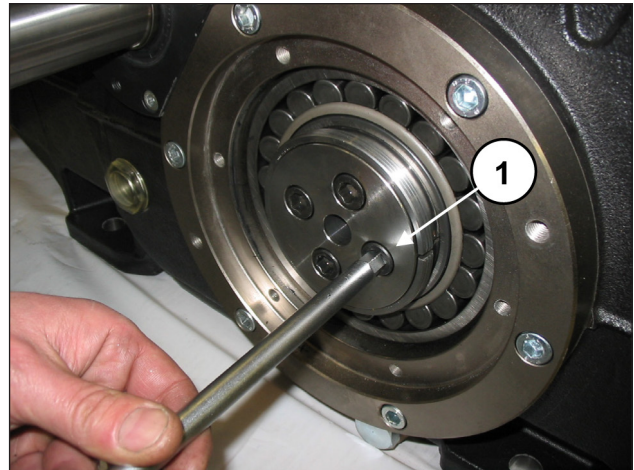

Fig. 13
Unscrew and take out the bush locking flange attachment screws, from both sides (pos. ①, Fig. 13).